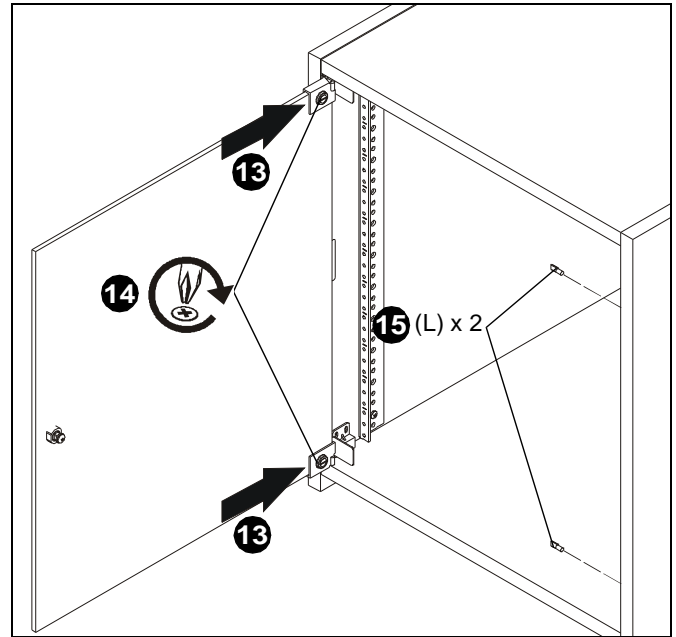

Figure 7
13. Slide front door (W) into brass hinges (J). (See Figure 7)
14. Tighten screws on brass hinges (J) to secure door to hinges. (See Figure 7)
15. Install two bookcase studs (L) into holes on opposite side panel. (See Figure 7)